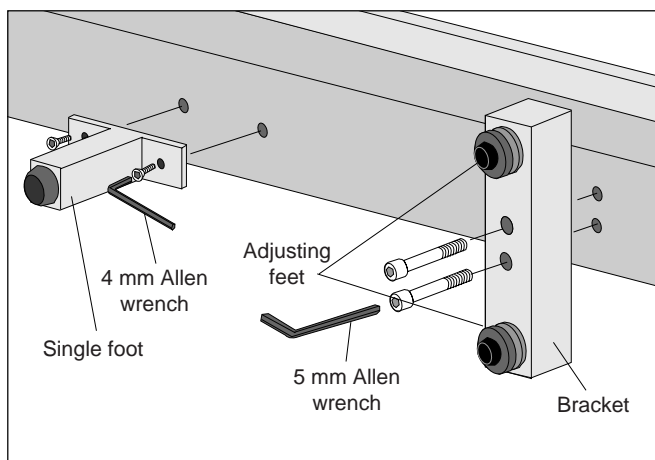

Figure 2 Attaching the Leveling Feet
1. Use the screws and Allen wrenches provided and attach the single and double leveling foot to the Air Track U-channel as shown in Figure 2.